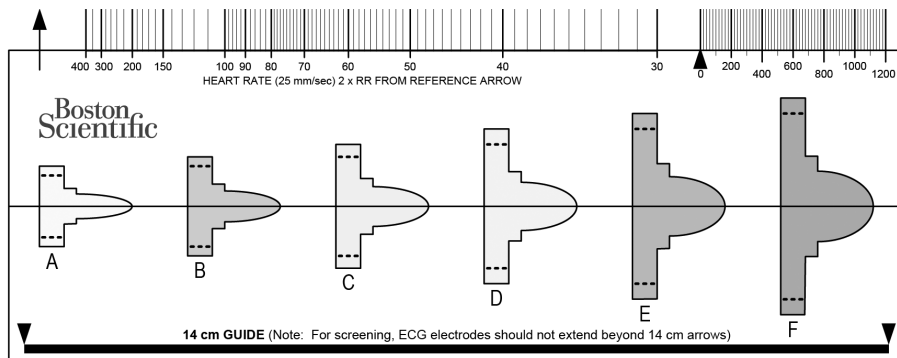

Figure 2. Patient Screening Tool
The patient screening tool, Model 4744 (Figure 2 Patient Screening Tool on page 18) is a customized measurement tool made of transparent plastic printed with colored profiles. Each colored profile is assigned a letter (A,B,C,D,E,F) for ease of reference. The profiles are designed to ensure appropriate device performance by identifying signal characteristics that may lead to unsatisfactory detection outcomes for a patient before implant. The patient screening process is completed in three steps: (1) Collecting the surface ECG, (2) Evaluating the surface ECG and (3) Determining an acceptable sense vector.